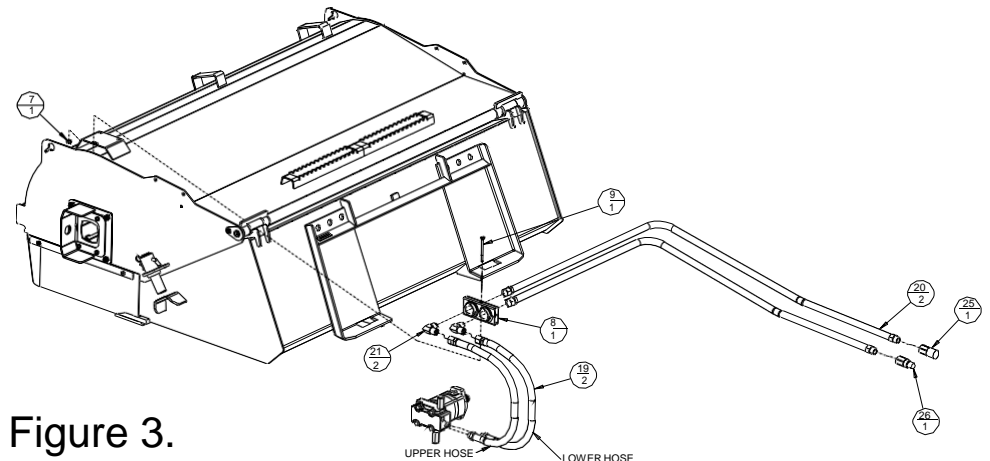

Figure 3.
- Remove 3/8" nut (Item #7) and bolt (Item #9) holding the hose clamp (Item #8) on left hand side (as seated in machine) of broom and remove hose clamp (see Figure 3). These items will not be used for the Gutter Brush installation.
- Remove 90° elbows (Item #21, See Figure 3) connecting the lead hoses (Item #20) to the motor hoses (Item #19). Take note of which lead hose and coupler connects with which motor hose. These elbows will no longer be used. To minimize loss of hydraulic oil, lay coupler ends of hoses on the ground and hold elbows over drain pan when disconnecting.
- Connect the lower motor hose (see Figure 3) to port "M1" on the valve block and the upper motor hose to port "M2".